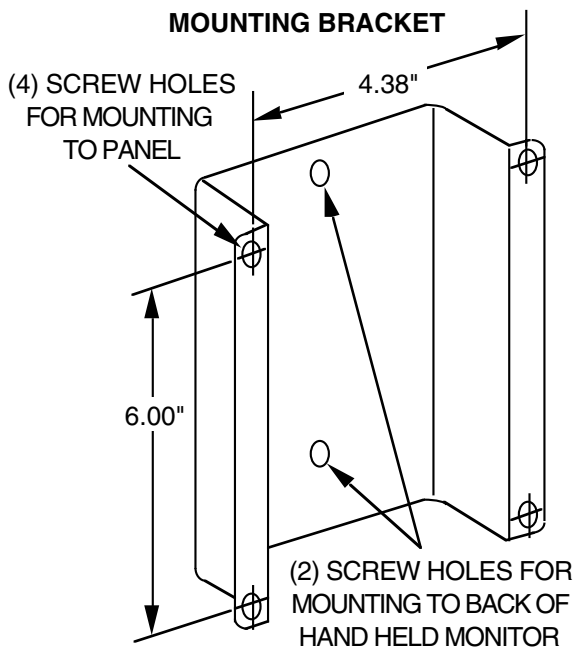

Figure 115. Panel Mount Kit for an HHM
3. Using the panel mount kit provided with the HHM, attach the mounting bracket to the HHM with two screws. See Figure 115.